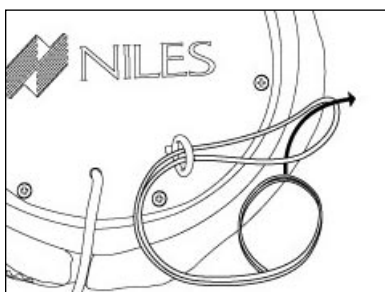

Figure 9 Security Cable Looping Through
3. Feed the opposite end of the nylon security cable through the exposed portion of the cable that was just fed through the security eyelet, as shown in **Figures 9 and 10**.